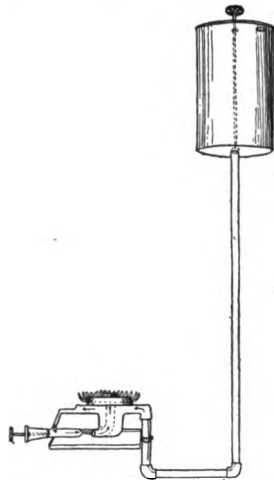

FIG. 17. Simple gasoline burner.
**30. Construction of Gasoline Stoves.** The gasoline stoves consist of a burner and an oil tank connected by a pipe (Fig. 17). The tank is elevated for the purpose of forcing the gasoline into the burner. The pipe may be any length. The danger from a gasoline stove comes from the fact that gasoline vaporizes at a low temperature. If the tank becomes heated, producing gas, and then becomes mixed with the proper proportion of air, it may explode if it comes in contact with a spark. (Fig. 17-a is an illustration of the cross-section of the Red Star gasoline or vapor stove. See page 38.)